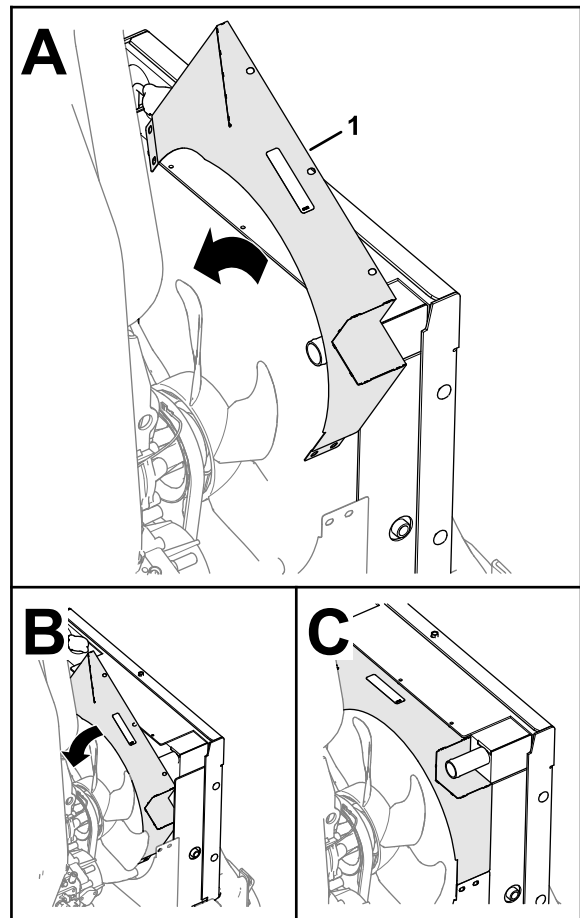

Figure 35
6. Align the top fan shroud to the machine as shown in Figure 35.